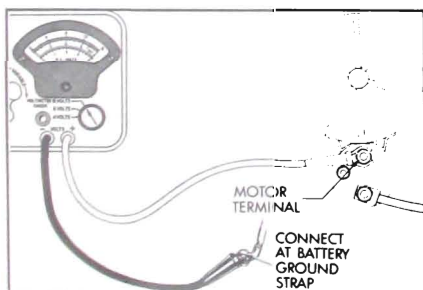

Figure 10-28—Cranking Voltage Test Connections
3. Connect voltmeter positive (+) lead to the motor terminal on solenoid switch; connect voltmeter negative (-) lead to ground on starter. See Figure 10-28.
4. Slowly adjust resistance until voltmeter reads 10 volts and note ammeter reading. This shows current draw of both windings in parallel, and should be 42 to 49 amperes at 10 volts, with solenoid at room temperature. See Figure 10-28 for a diagram of solenoid circuits.